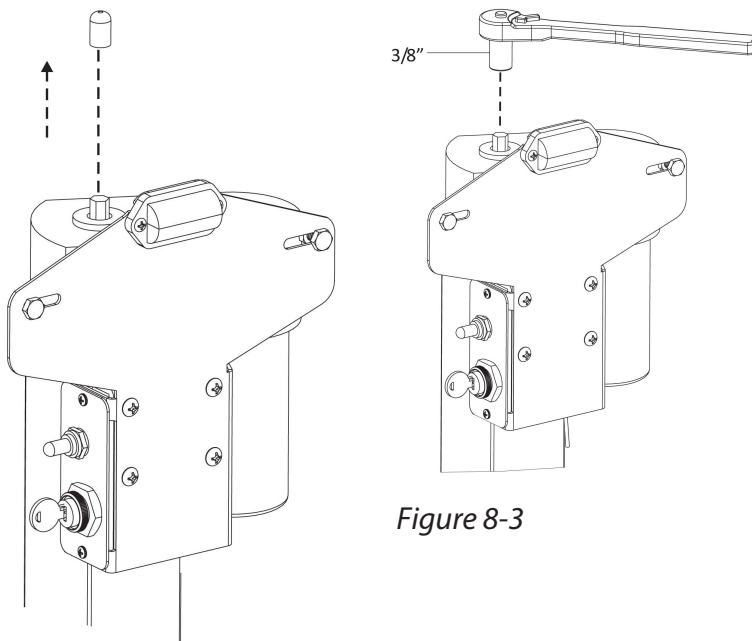

Figure 8-2
2. Remove the cap on top of the motor. [Figure 8-2]